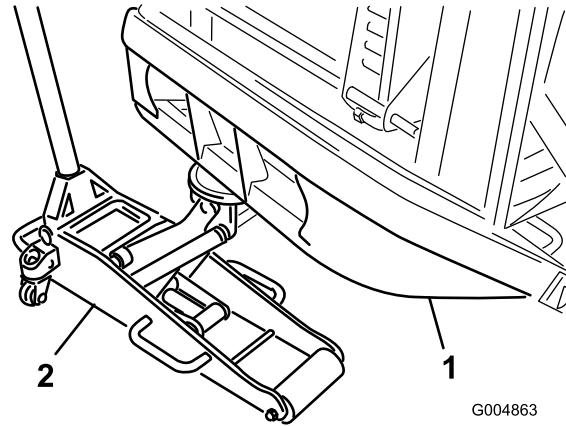

Figure 96
- Position a suitable floor jack under the rear bumper tube and raise the rear tires off of the ground (Figure 96).